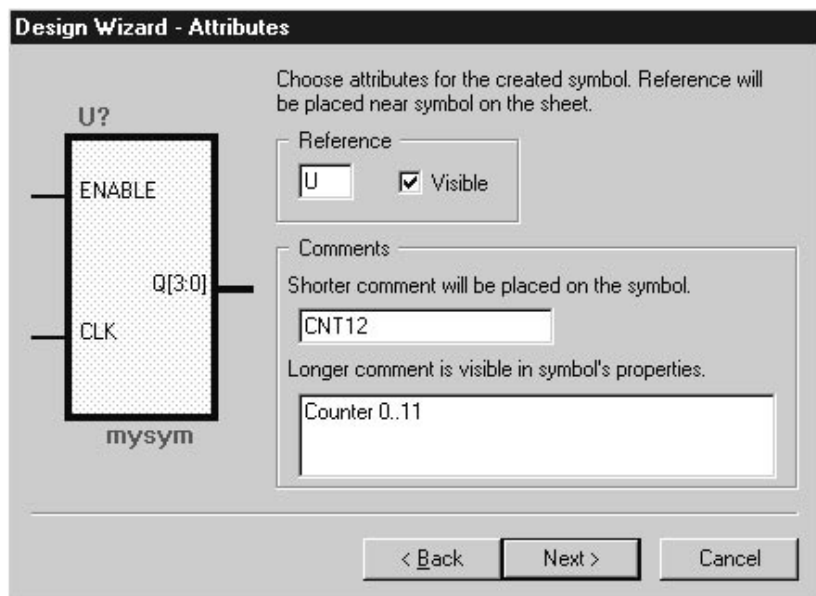

Figure 4-12. Design Wizard - Attributes.
- ☐ In the **Attributes** window shown on figure 4-12 enter required symbol reference letter and symbol comments.